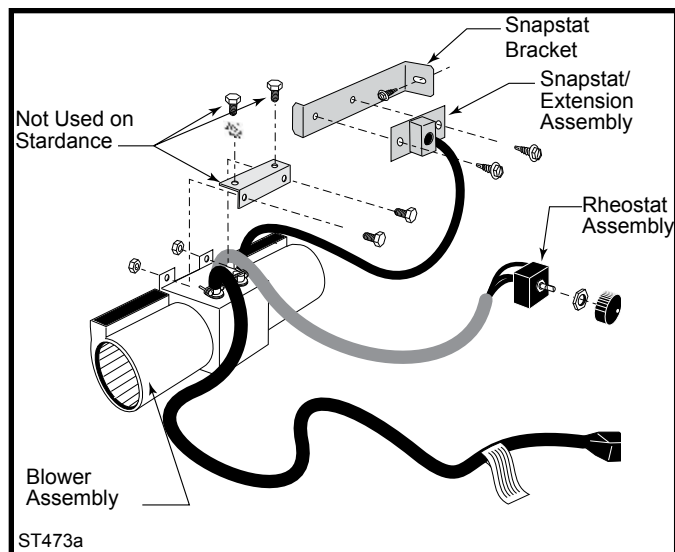

Figure 14 Fan kit components.
1. The fan kit includes a Blower Assembly and a Rheostat Assembly, connected by a cable. (Figure 14) The Blower Assembly mounts to the bottom rear of the stove, and the Rheostat mounts to the valve bracket to the left of the valve. The assembly includes a 'snapstat' which automatically turns the fan On (or Off) above (or below) approximately 109°. The Rheostat also provides a range of fan speed settings from Off (which overrides the snapstat function) to High. Unpack and inspect the Blower assembly. Confirm the